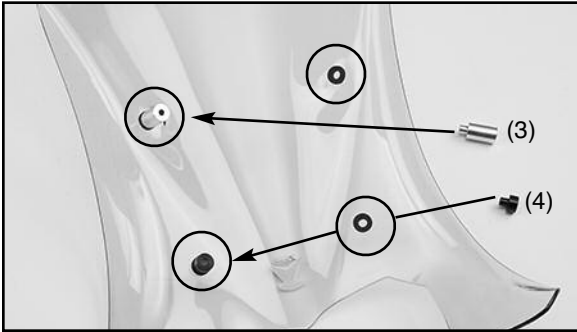

Figure 3
2. From the inside of the windshield, install the 2 upper Bushings (3) and two Lower Bushings (4) into the holes. **Figure 3, Diagram A**